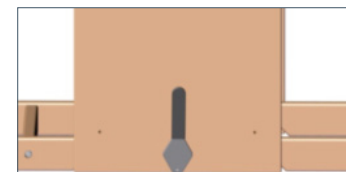

FIGURE 12
- Test the function of the locked position of the Lever-Locks. Refer to Figure 12 and place the Lever-Lock on each side of the barrel in its locked position. When in this position, the Upholstered Barrel Assembly should not slide along the rails.